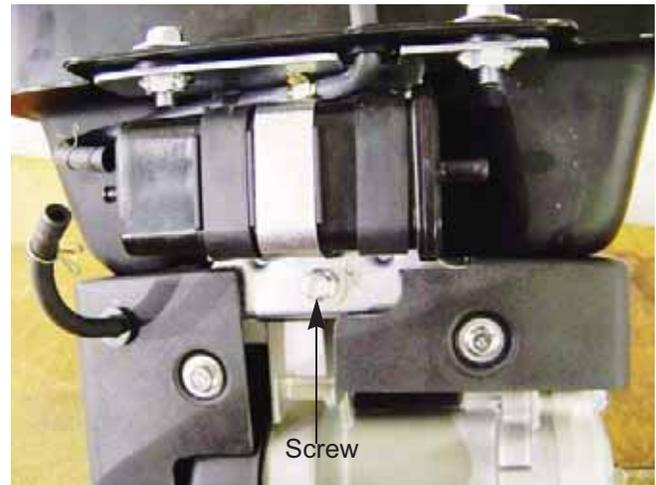

Figure 4.16
2. Remove the screw from the canister mounting strap using a 10 mm wrench. See Figure 4.16.